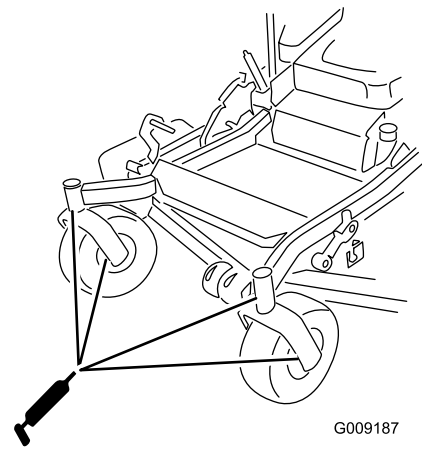

Figure 42
9. Remove the grease zerk in the hole. Install the hex plug and dust cap (Figure 42).